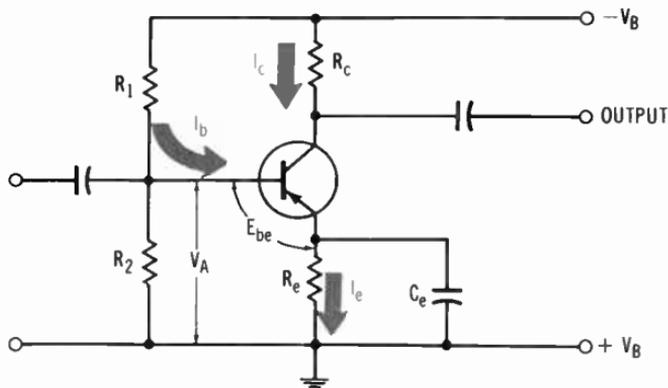

Fig. 6-7. Circuit using emitter-stabilizing resistor.
Another very common stabilizing circuit uses a resistor in series with the emitter. Such a circuit is shown in Fig. 6-7. Resistors R_1 and R_2 form a voltage divider across voltage supply V_b , providing the base with a voltage $V_A = \frac{R_2}{R_1 + R_2} V_B$. (Current I_b is assumed to be so small that it can be neglected.) In order to have good compensation, V_A must remain unaffected by variations in I_b . This is done by choosing the resistance values so that the current through R_1 and R_2 is much larger than I_b .
- Q6-18.** In the circuit in Fig. 6-7, what effect will an increase in collector current have on the voltage between the emitter and base?
- Q6-19.** In the circuit in Fig. 6-7, what effect will an increase in collector current have on base current?